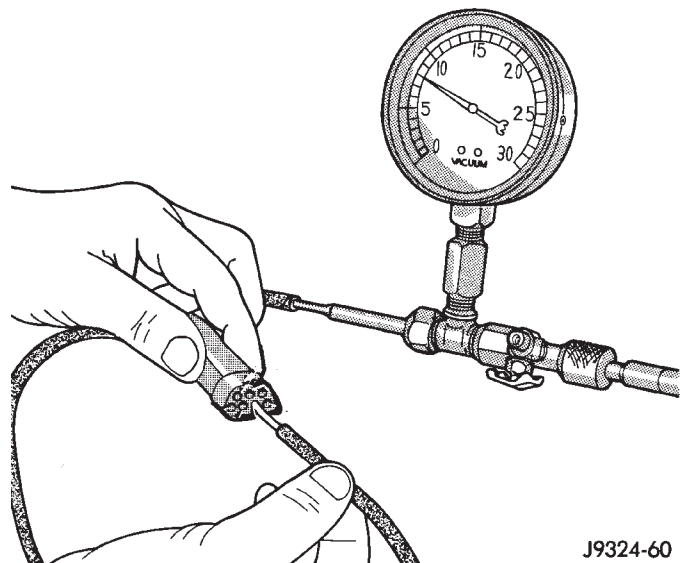

Fig. 8 Vacuum Circuit Test
(1) Disconnect the vacuum harness connector from the back of the heater-A/C mode control switch on the control panel.
(2) Connect the test set vacuum hose probe to each port in the vacuum harness connector, one at a time, and pause after each connection (Fig. 8). The test set gauge should return to the 27 kPa (8 in. Hg.) setting shortly after each connection is made. If OK, replace the faulty mode control switch. If not OK, go to Step 3.